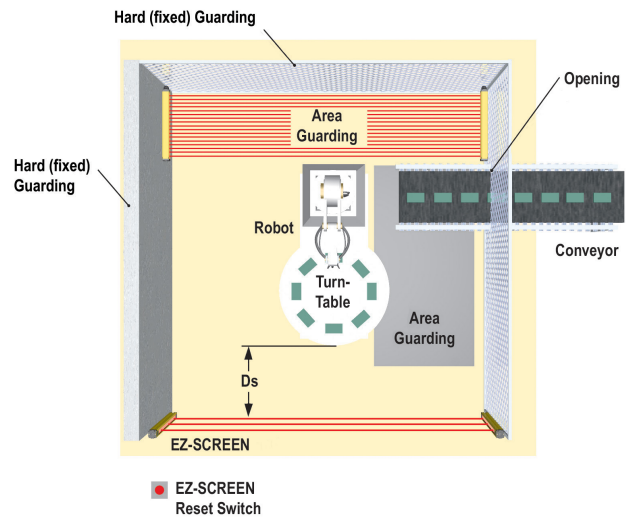

Figure 5. An example of supplemental safeguarding
Additionally, the hazard cannot be accessible by reaching around, under, or over the defined area. To accomplish this, supplemental guarding (mechanical barriers, such as screens or bars), as described by ANSI B11.19 safety requirements or other appropriate standards, must be installed. Access will then be possible only through the defined area of the EZ-SCREEN V-Series System or through other safeguarding that prevents access to the hazard (see *Figure 5* on page 14).
*Figure 5* on page 14 shows an example of supplemental safeguarding inside a robotic work cell. The EZ-SCREEN V-Series, in conjunction with the hard (fixed) guarding, is the primary safeguard. Supplemental safeguarding (such as a horizontal-mounted safety light screen as an area guard) is required in areas that cannot be viewed from the reset switch (for example, behind the robot and the conveyor). Additional supplemental safeguarding may be required to prevent clearance or trapping hazards (for example, a safety mat as an area guard between the robot, the turntable, and the conveyor).